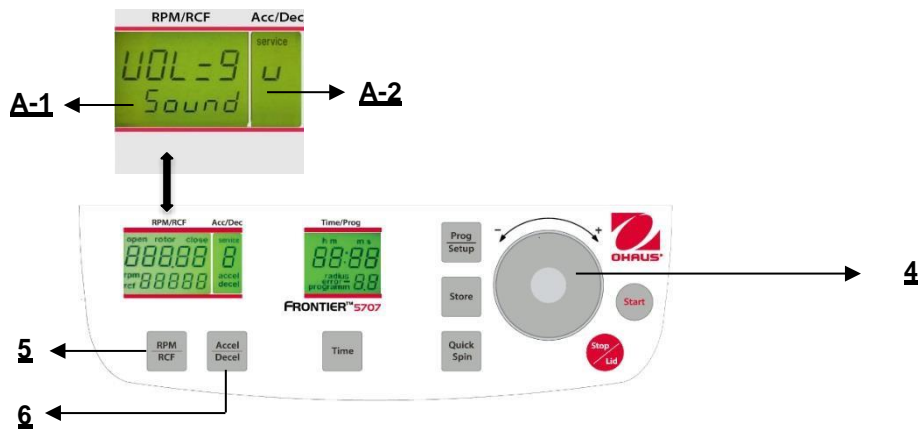

Figure. 30
Proceed as described under point 4.1.2 to enter this program mode and then press the key "**Accel/Decel**" (6). In the display "**Acc/Dec**" (A-2) the word "**Service**" flashes. Now select the letter "**U**" with the adjusting dial (4). As a result, in the display "**RPM/RCF**" (A-1) the words "**Vol=0- 9/Sound**" appear. After pressing the key "**RPM/RCF**" (5), you can adjust the desired volume between 0 (low) and 9 (high) with the adjusting dial (4) (See figure 30).